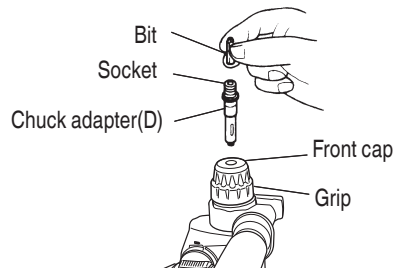

Fig. 18
4. When driving machine screws (Fig. 18)
5. When driving wood screws (Fig. 18)